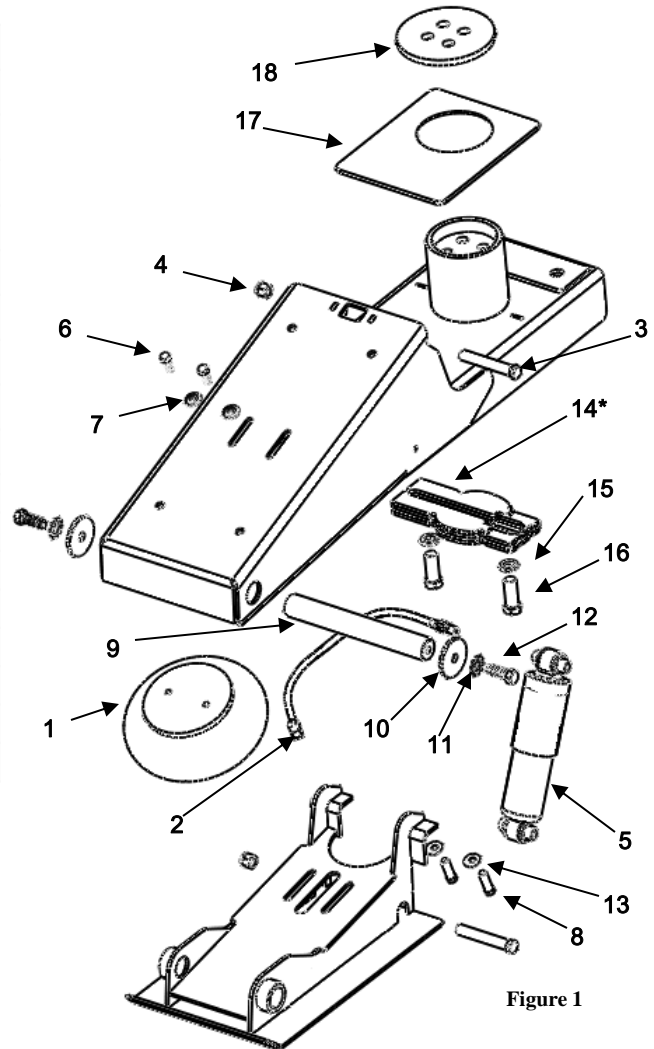

Figure 1
2. Check all boxes for all components listed in figure 1.